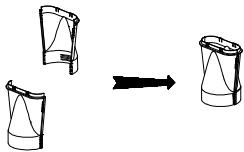
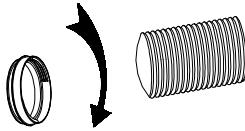
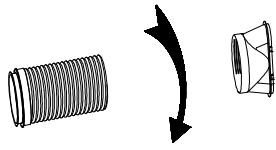
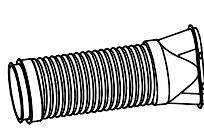

Figure 1A
Figure 2A
Figure 1
Figure 2
1.1 Assembly of the heat exhausts outer connector (**Figure 1A**), heat exhaust hose short connector (**Figure 2A**), and the heat exhausts outer connector and heat exhaust hose short connector (**Figure 1, Figure 2**)
- (1) Take out the two pieces of the heat exhaust hose outer connector, these two pieces are the same in structure;
- (2) Hold one piece with each hand, put the joint of one piece toward the other one's groove, and press them to make them snap tightly (**Figure 1A**).
- (3) Take out the heat exhaust hose and the round connector, pull the few turns of the hose end apart, and screw it counterclockwise into the whorl side of the round connector to form heat exhaust hose assembly A (**Figure 2A**).
- (4) Pull the few turns at the other end of the heat exhaust hose apart, screw the round end of the heat exhaust hose outer connector counterclockwise into the heat exhaust hose to form the heat exhaust hose assembly (**Figure 2**).